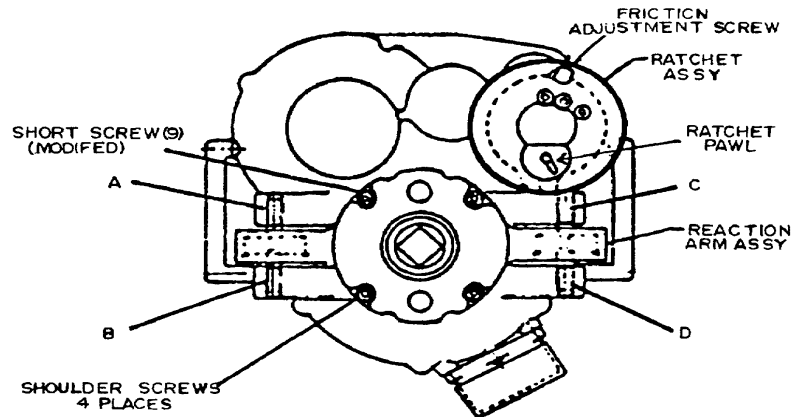

Figure 4. Torque wrench - adjustment locations.
(1) Check friction brake by carefully applying torque in small increments and ensuring that friction brake holds up to 1200 ft-lbs. If friction brake does not hold, tighten FRICTION ADJUSTMENT SCREW (fig. 4) to increase friction. Do not over-tighten because the friction brake must be overcome to back off torque that has been applied. Maximum torque needed to overcome brake should not exceed 75 ft-lbs.
Two ratchets are used on this TI, one on the torque wrench and one on the T-handle. Operation of the T-handle ratchet is obvious. The torque wrench ratchet operates in conjunction with the friction brake. The RATCHET PAWL (fig. 4) is labeled nut-on for cw torque and nut-off for ccw torque.
Do not attempt to reverse the RATCHET PAWL (fig. 4) with torque applied. When torque is applied cw with RATCHET PAWL (fig. 4) in nut-on position, the T-handle must be turned ccw against resistance of the friction brake to release the applied torque.
- (4) Check cw and ccw balance of TI as follows:
- (a) Set RATCHET PAWL (fig. 4) to nut-on position.
- (i) Turn T-handle ccw to obtain a 500 ft-lb indication on TI indicator. Record indication of force/torque indicator. If indication is not within 5 ft-lbs of indication recorded in (b) above, perform **b**(1) through (3) below.
- (5) Turn T-handle cw to release applied torque.
- (6) Press the **F4** key on the force/torque indicator until you see the   soft keys. Press the   soft keys as necessary to select the torque cell for the TI range and direction being calibrated. Insure the serial number matches the torque cell being used.
(1) Remove sealant from adjustment screws A and B (fig. 4). Screws C and D (fig .4) should not need adjustment unless TI is disassembled for repair or overhaul.
(2) Adjust screws A and B (fig. 4) slightly by backing one out and advancing the other one-quarter turn at a time.
(3) Repeat (2) above and continue adjustment in small increments until indications are within tolerance. When correctly adjusted, screws A, B, C, and D (fig. 4) should be just touching bellows assemblies (R).
(4) Remove rubber indicator protective cover.
(5) Remove lens retaining ring and lens from TI indicator.
(6) Turn T-handle to obtain a 500 ft-lb indication on force/torque indicator. Slip dial face to align pointer with 500 ft-lb graduation on dial face (R).
(7) Turn T-handle to relieve all applied torque from TI. Indicator must indicate within green band at 0.
(8) Install lens, retaining ring, and protective cover.
(9) Repeat **a**(3) through (5) above. If TI indications are not within tolerance, repeat **b**(2) through (8) above.
(10) Reseal adjustment screws with silicon rubber sealant.